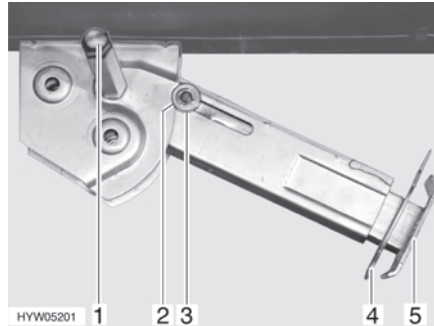

Fig. 25 Steady leg
- Place the socket spanner on the hexagon nut (Fig. 25,1) and rotate until the steady leg is in a perpendicular downward position.
- Remove the splint (Fig. 25,4) out of the support foot extension (Fig. 25,5).
- Place the socket spanner on the hexagon nut (Fig. 25,1) and rotate until the steady leg is clear of the ground.
- Push in the support foot extension (Fig. 25,5) and insert the splint (Fig. 25,4) in the drilled hole in the support foot extension.
- Rotate the hexagonal nut (Fig. 25,1) with the socket spanner until the steady leg has swung upwards and the guide disc (Fig. 25,3) has completely retracted into the notch (Fig. 25,2).